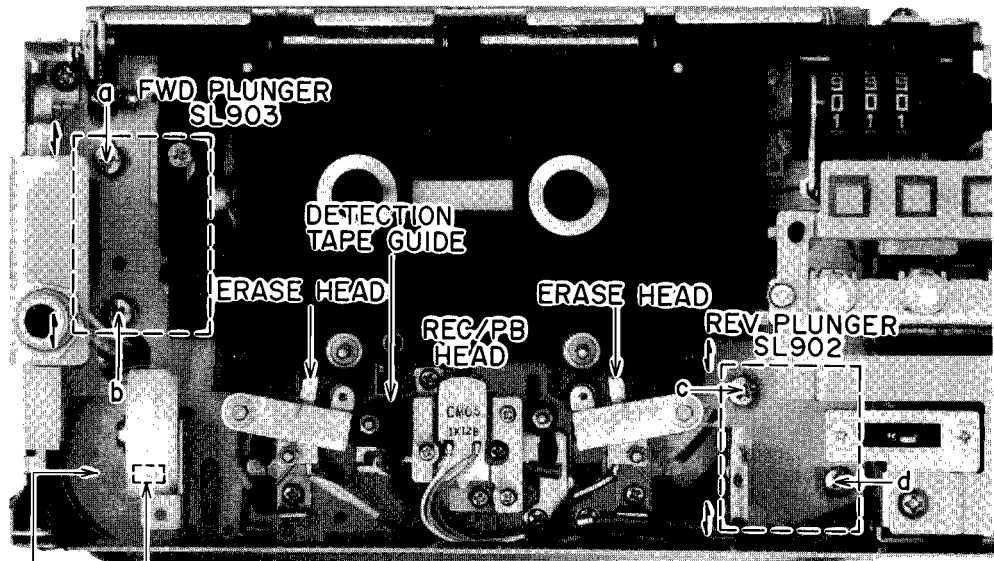

Fig. 9
- 1) Forward Plunger Adjustment (Refer to Figs. 9, 11)
- 3) Reverse Plunger Adjustment (Refer to Figs. 9, 11)
5. TAPE SPEED ADJUSTMENT (Refer to Fig. 9)